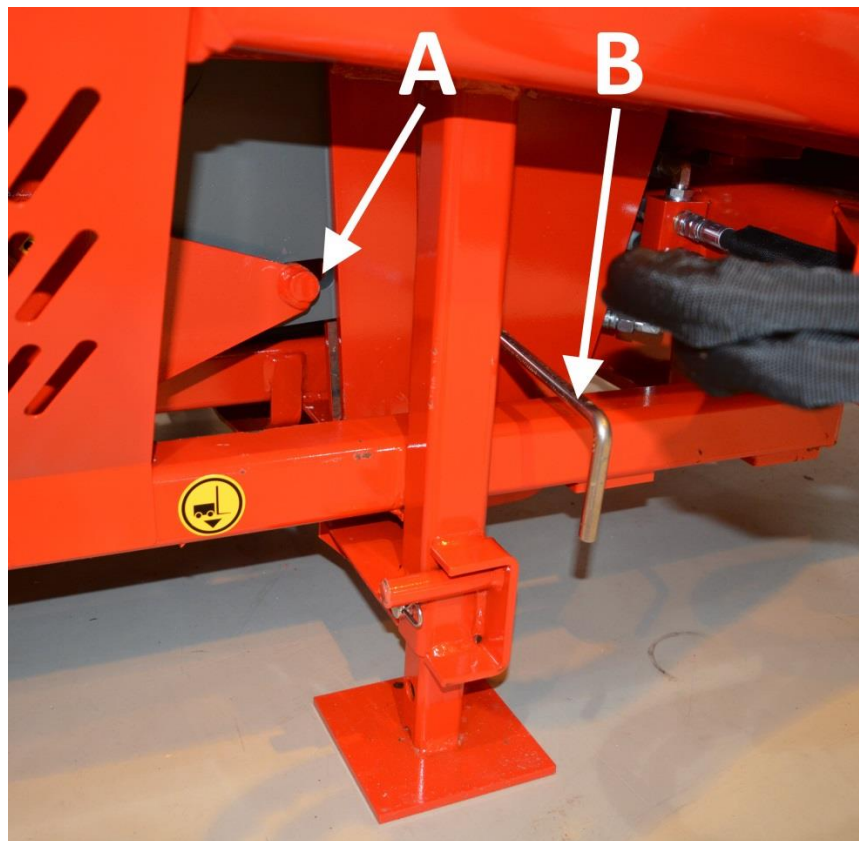

Figure 20.
1. Pull handle B (Figure 20).
2. Lower the splitting blade to the lowest possible position to remove the control shaft from slot A (Figure 20).